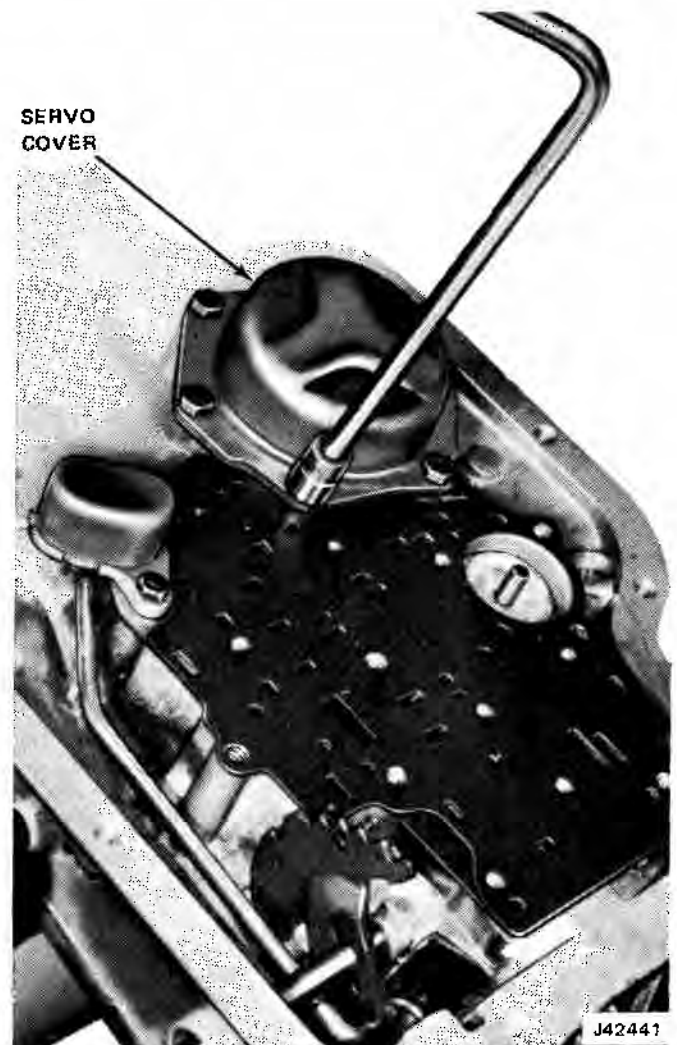

Fig. 7-11 Removing or Installing Rear Servo Cover
(1) Remove rear servo cover attaching screws, servo cover and gasket from transmission case. Discard gasket (fig. 7-11).